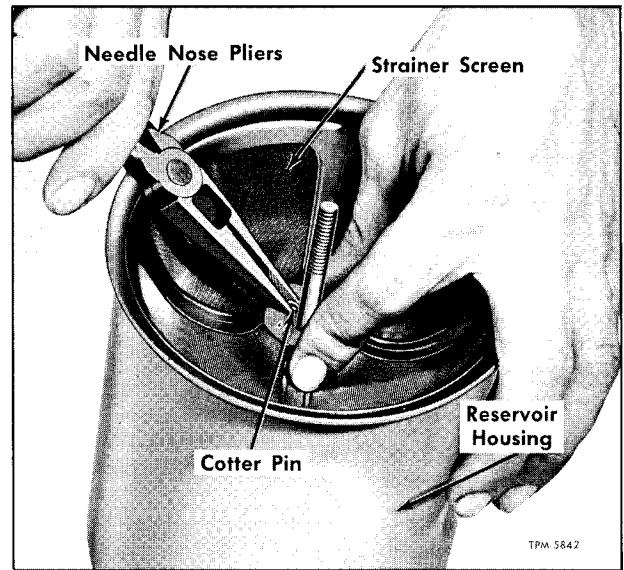

Figure 31—Method of Replacing Fluid Reservoir Screen and Cotter Pin
1. Remove nut (1) with gasket (2) then lift cover (3) from reservoir housing (8). If necessary, remove cover O-ring seal (4) from cover.
2. Using thin-nose pliers as shown in figure 31, remove small cotter pin (6) which retains strainer screen (5) in housing. **CAUTION:** Do not poke hole in screen with pliers when cotter pin releases from thru bolt. Lift screen from housing.
3. Remove spring (7), by-pass filter assembly (9) and filter element (11) from reservoir housing. Discard element.
4. Disassemble by-pass filter assembly (9) by removing three filter screws (10) and nuts. Disassemble filter assembly completely.